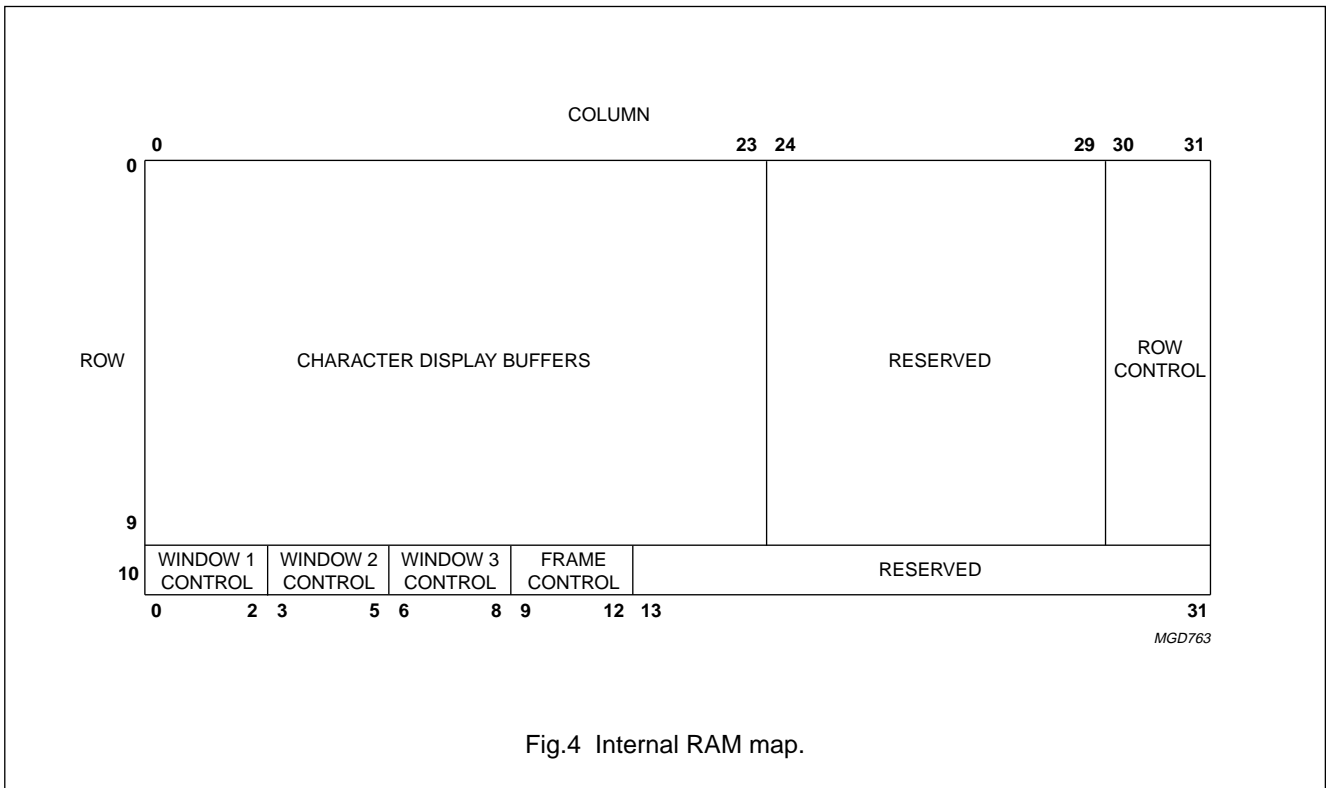

Fig.4 Internal RAM map.
The 3-wire ( $\overline{EN}$ , SDI and SCK) high speed serial interface of the PCB8517 is write only and is used to write data from the microcontroller to the internal 273 bytes of RAM (see Section "Internal RAM organization (see Fig.4)") to control the OSD. The RAM is organized into 11 rows of 32 columns (see Fig.4) and can be programmed by three types of sequence (see Section "Data sequence and format").
**Internal RAM organization** (see Fig.4)